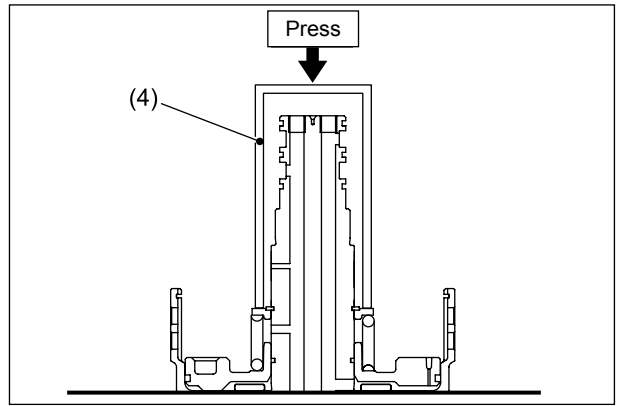

Fig. 3.103
- ④ Install the return spring (1). Using a jig (4), compress the return spring (1) along with the retainer (2) and snap ring (3) till the snap ring groove and secure it with the snap ring (3). (For the jig (4), see Fig. 3.103.)